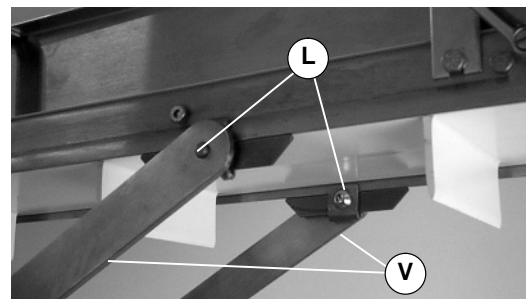

Figure 10
- 7d. Loosely attach brace bars (V of Figure 10) to conveyor using clip assemblies.